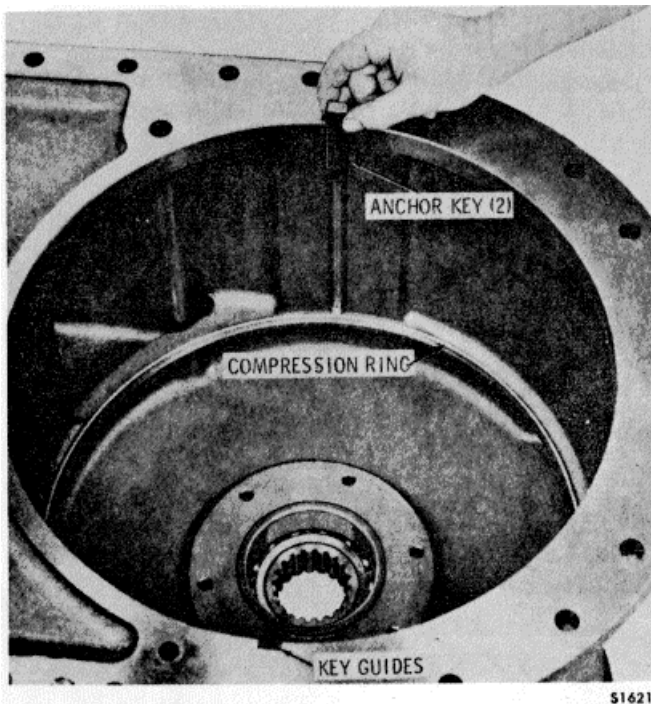

Figure 15-81. Removing Clutch Anchor Keys
15. Remove two clutch anchor keys from the transmission housing key guides (Figure 15-81).